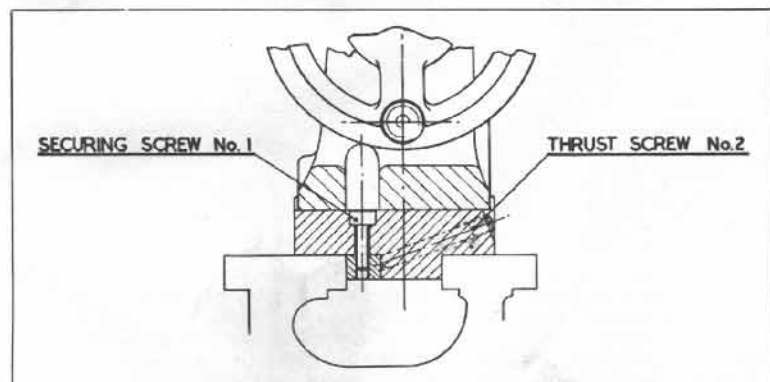

Fig. 42
Refer to Fig. 42. Release gib securing screws (1) and retighten until just nipped.